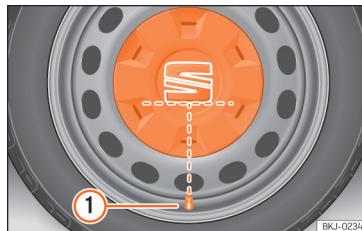

Fig. 32 Correct positioning of the central wheel trim for steel rims.
- Fit the central wheel trim onto the rim. The bottom of the "S" of the SEAT badge should align with the inflation valve >>> **Fig. 32** ①.